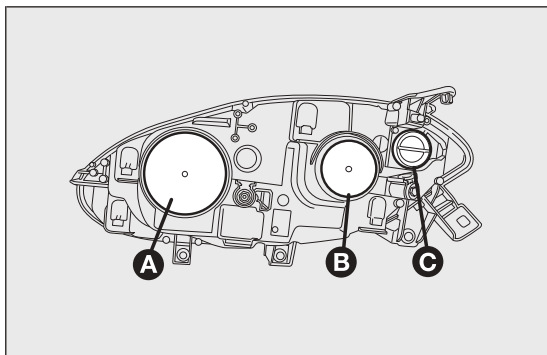
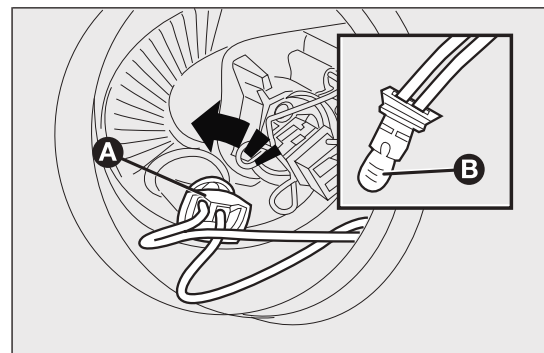

fig. 139
fig. 141
The bulbs are arranged inside the light cluster as follows fig. 139:
- remove the protective cover B fig. 139;
- refit the protective cover A fig. 139.
- remove the protective cover A fig. 139;
- turn the bulb holder A fig. 141 anticlockwise and remove it;
- refit the new bulb, put the bulb holder A fig. 141 back into place and then refit the protective cover B fig. 139 properly.
- refit the protective cover B fig. 139.
- rotate the protective cover C fig. 139 anticlockwise;